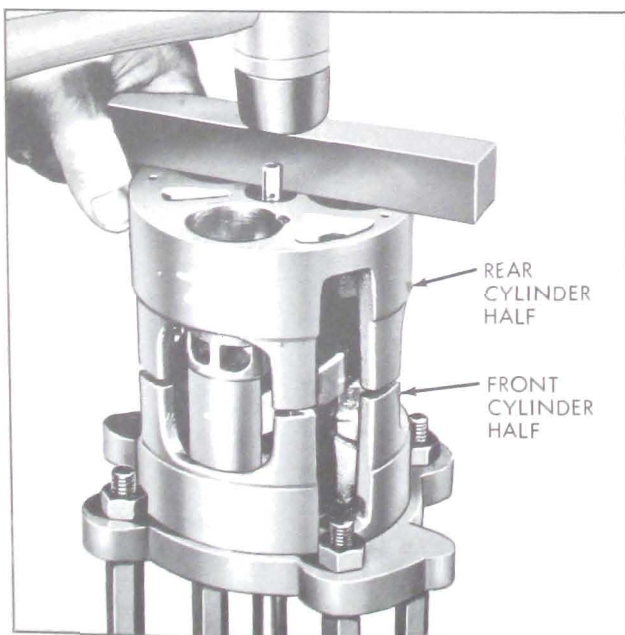

Figure 11-109—Assembling Rear Cylinder Half
11. Align rear cylinder half casting with bores, suction passage, discharge crossover holes, dowel pins, etc. Tap into place, using a wood block and mallet. See Figure 11-109.